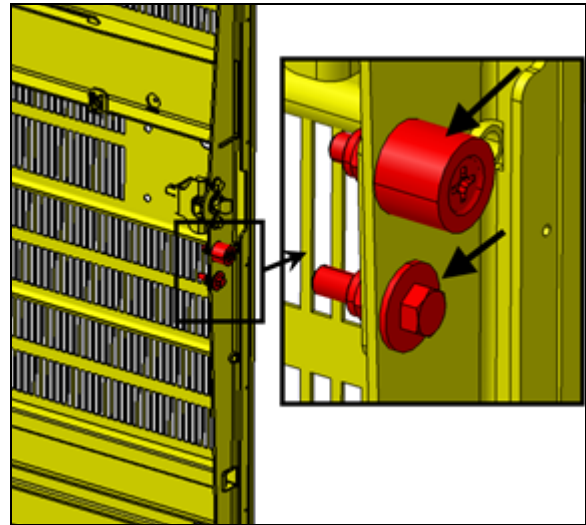

FIGURE 128
2. Check that the two items identified with arrows are snug but not tight (FIGURE 128).